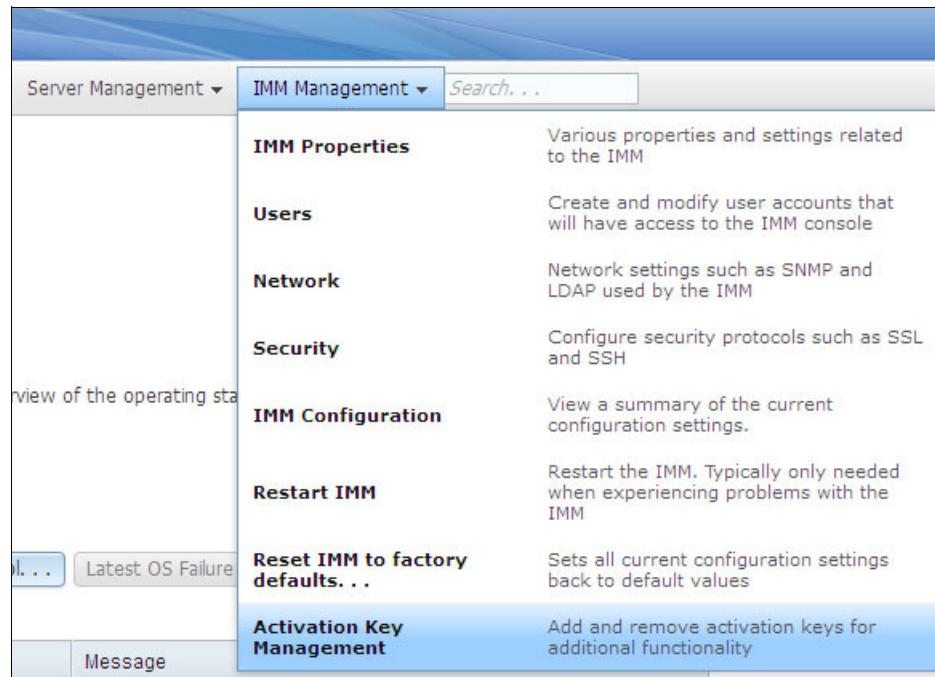

Figure 5-35 Activation Key Management
2. Select **Activation Key Management** from the IMM Management menu. Figure 5-35 shows this menu.
2. Select **Activation Key Management** from the IMM Management menu. Figure 5-35 on page 99 shows this menu.